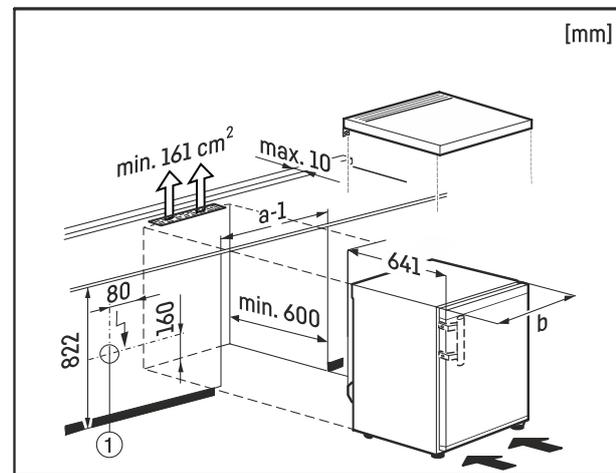

Fig. 9
The electrical socket Fig. 9 (1) must be outside of the rear of the appliance and easily accessible.